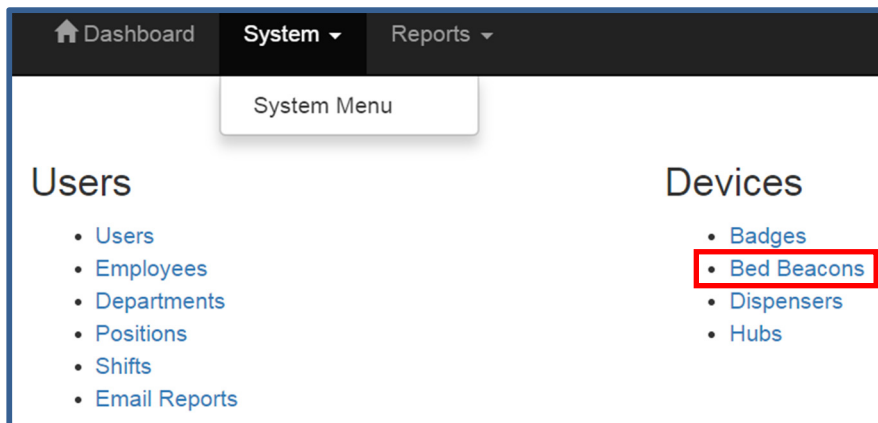

Figure 17. System Menu Screen
6. Click on **Bed Beacons** and a list of all current active **Bed Beacons** will be displayed as shown in Figure 17.